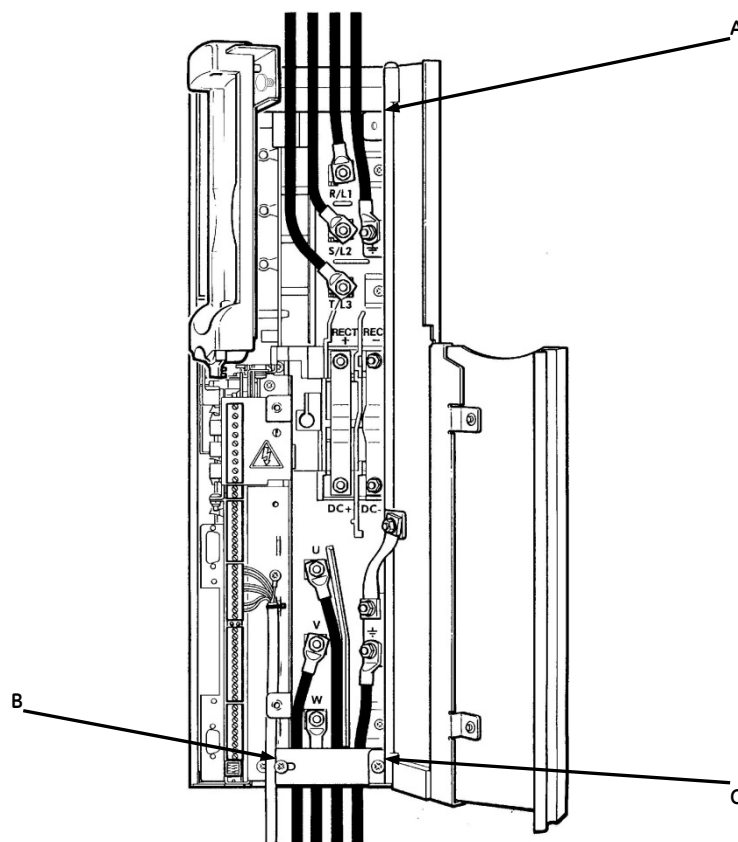
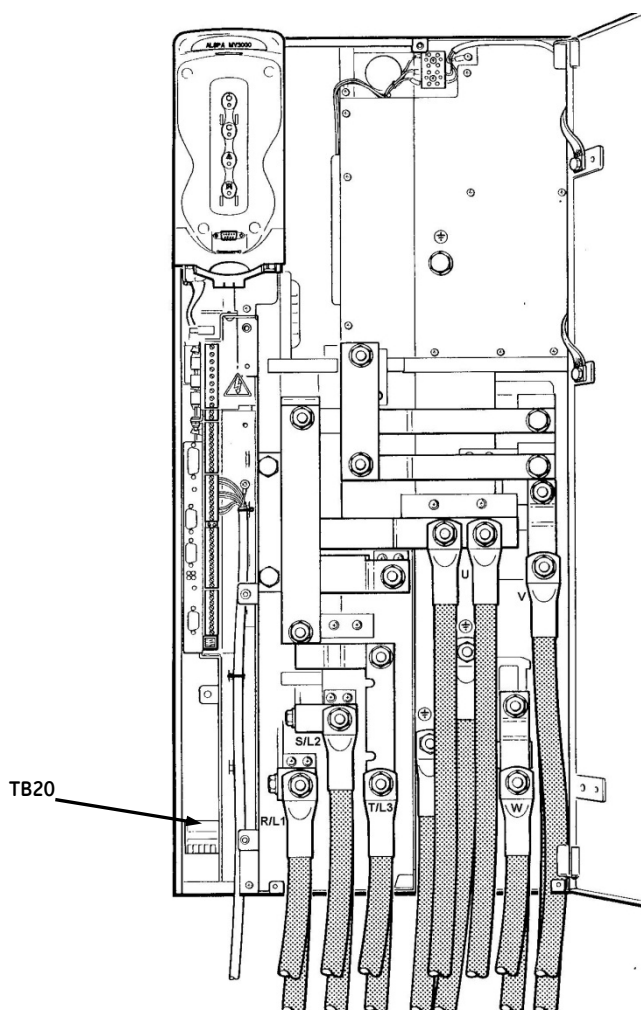

Figure 3-9. – Power Connections for Frame Sizes 3 & 4
Figure 3-10. – Power Connections for Frame Size 6
The location of electrical connectors is shown in Figure 3-6 (frame sizes 3 and 4), Figure 3-9 (frame size 6) and Figure 3-10 (frame size 7). All units have two doors, for accessing control and power connections.
Frame sizes 3 and 4 have a similar connector layout (Figure 3-9). The means of connecting supply and motor cables is also similar, so the procedure and illustration are given for frame size 3 only. The connection of control cables is the same for all frame sizes.
- i) For frame size 3 models fitted with a cable access plate (Figure 3-9), fit the plate and secure using bolt B. Tighten screw C.
The power connector layout for frame size 6 is shown in Figure 3-10.
- a) Refer to Figure 3-10 and connect the AC supply cables to terminals R/L1, S/L2 and T/L3 on the drive.
- b) Figure 3-10 Power connections for frame size 6, showing parallel cabling
- a) Referring to Figure 3-10, connect the motor supply cables to terminals U, V and W on the drive.
The power connector layout for frame size 7 is shown in Figure 3-10.
- a) Referring to Figure 3-10, connect the AC supply cables to terminals R/L1, S/L2 and T/L3 on the drive. Note that the diagram shows parallel connections.